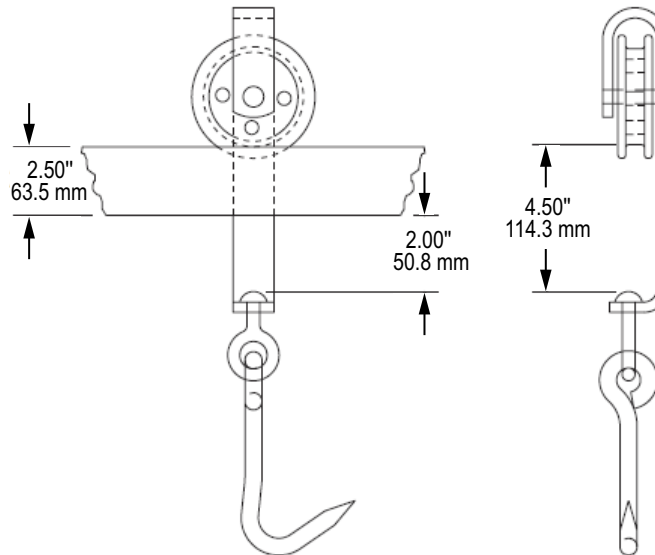

Figure 2-1. Minimum Clearances for Trolleys
Before installing the portable monorail scale, check the trolleys used in the plant to ensure there is adequate clearance between the top of the swivel hook and the bottom of the scale (Figure 2-1).
1. Check that all trolleys using the scale have adequate clearance to fit on the scale. See Figure 2-1 on page 2 for minimum clearance size.